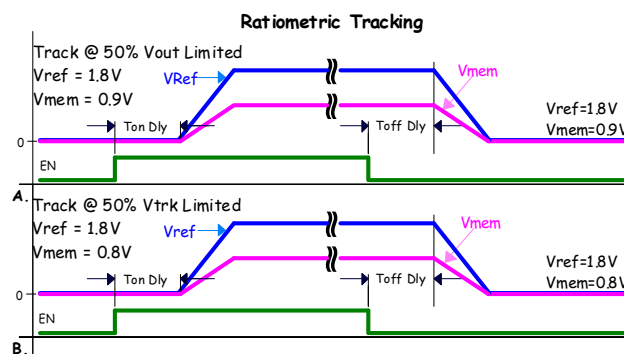

FIGURE 21. RATIOMETRIC TRACKING
- a. Track at 50%  $V_{OUT}$  limited. Member rail tracks the reference rail and stops when the member reaches 50% of the target voltage, Figure 21 (A).
- b. Track at 50% VTRK limited. Member rail tracks the reference at the instantaneous voltage value applied to the VTRK pin until the member rail reaches 50% of the reference rail voltage, or if the member is configured to less than 50% of the reference the member will achieve its configured target, Figure 21 (B).
| Tracking Configuration Figure 21 (A) |                  |                  |                   |                   |                    |                        |
| Tracking Configuration Figure 21 (B) |                  |                  |                   |                   |                    |                        |